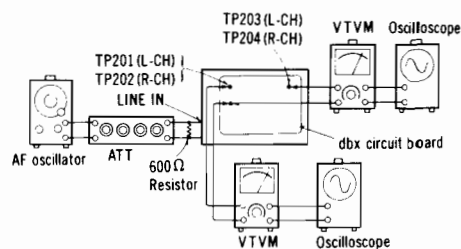

Fig. 15
1. Make the connections as shown in fig. 15, and apply 100Hz -27dB signal from LINE IN.